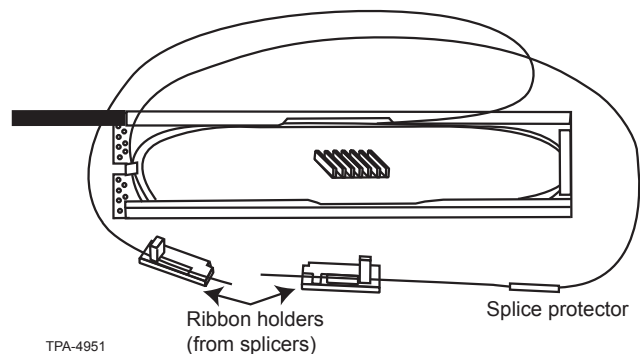

Figure 11
**IMPORTANT:** *When using heat-shrink splice protection (OSE-ST-3), place the mass fusion heat-shrink splice protector over the fibers. The splice protector must be installed onto the ribbon/fiber BEFORE the fiber is spliced (Figure 11).*